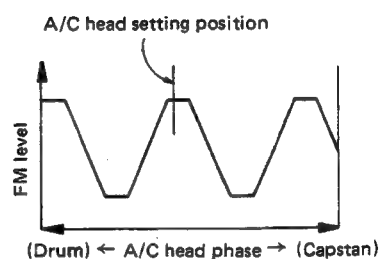

Fig. 2-58
8. Slowly turn the tool and set the audio/control head assembly to the position where the second biggest peak FM level is obtained. See Fig. 2-58.
9. While using care not to slide the position of the audio/control head assembly the two screws (D) and (E).